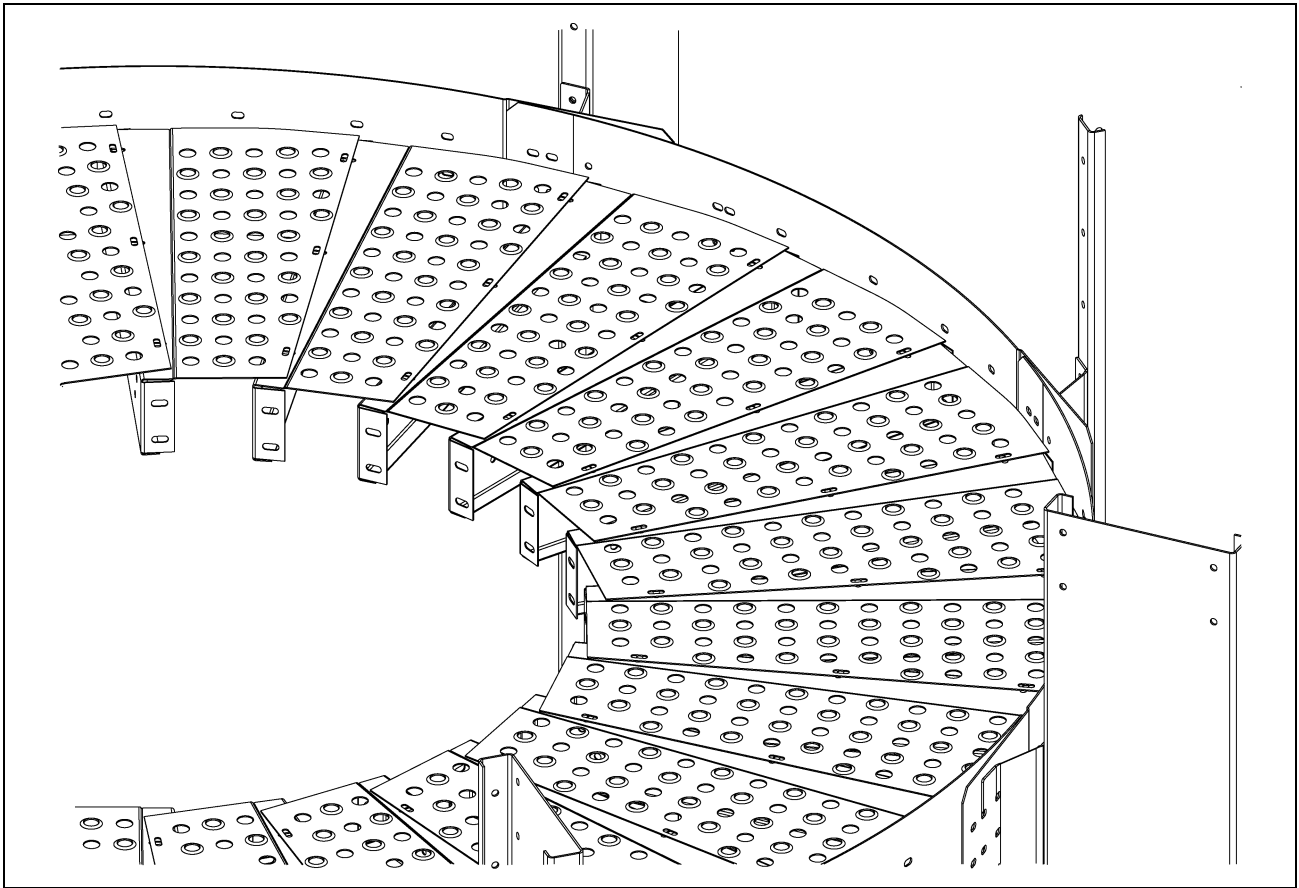

Figure 5G
2. Install all the planks (GT3-1669) continuously around the dryer. (See Figure 5G.)